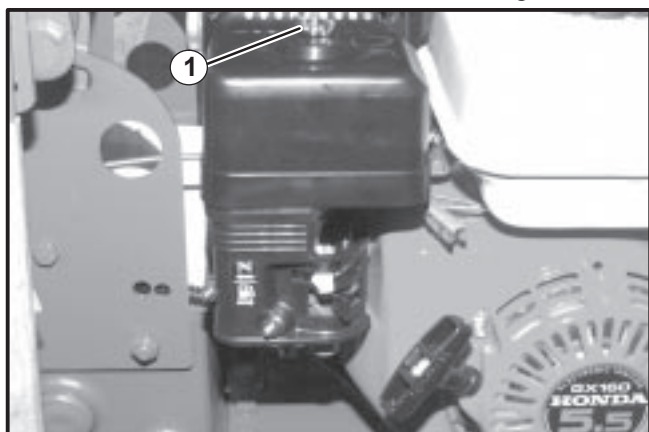

FIGURE 11
14. For Honda engines loosen and remove wing nut securing air cleaner cover. Remove cover and element to allow access to throttle. See Figure 11.